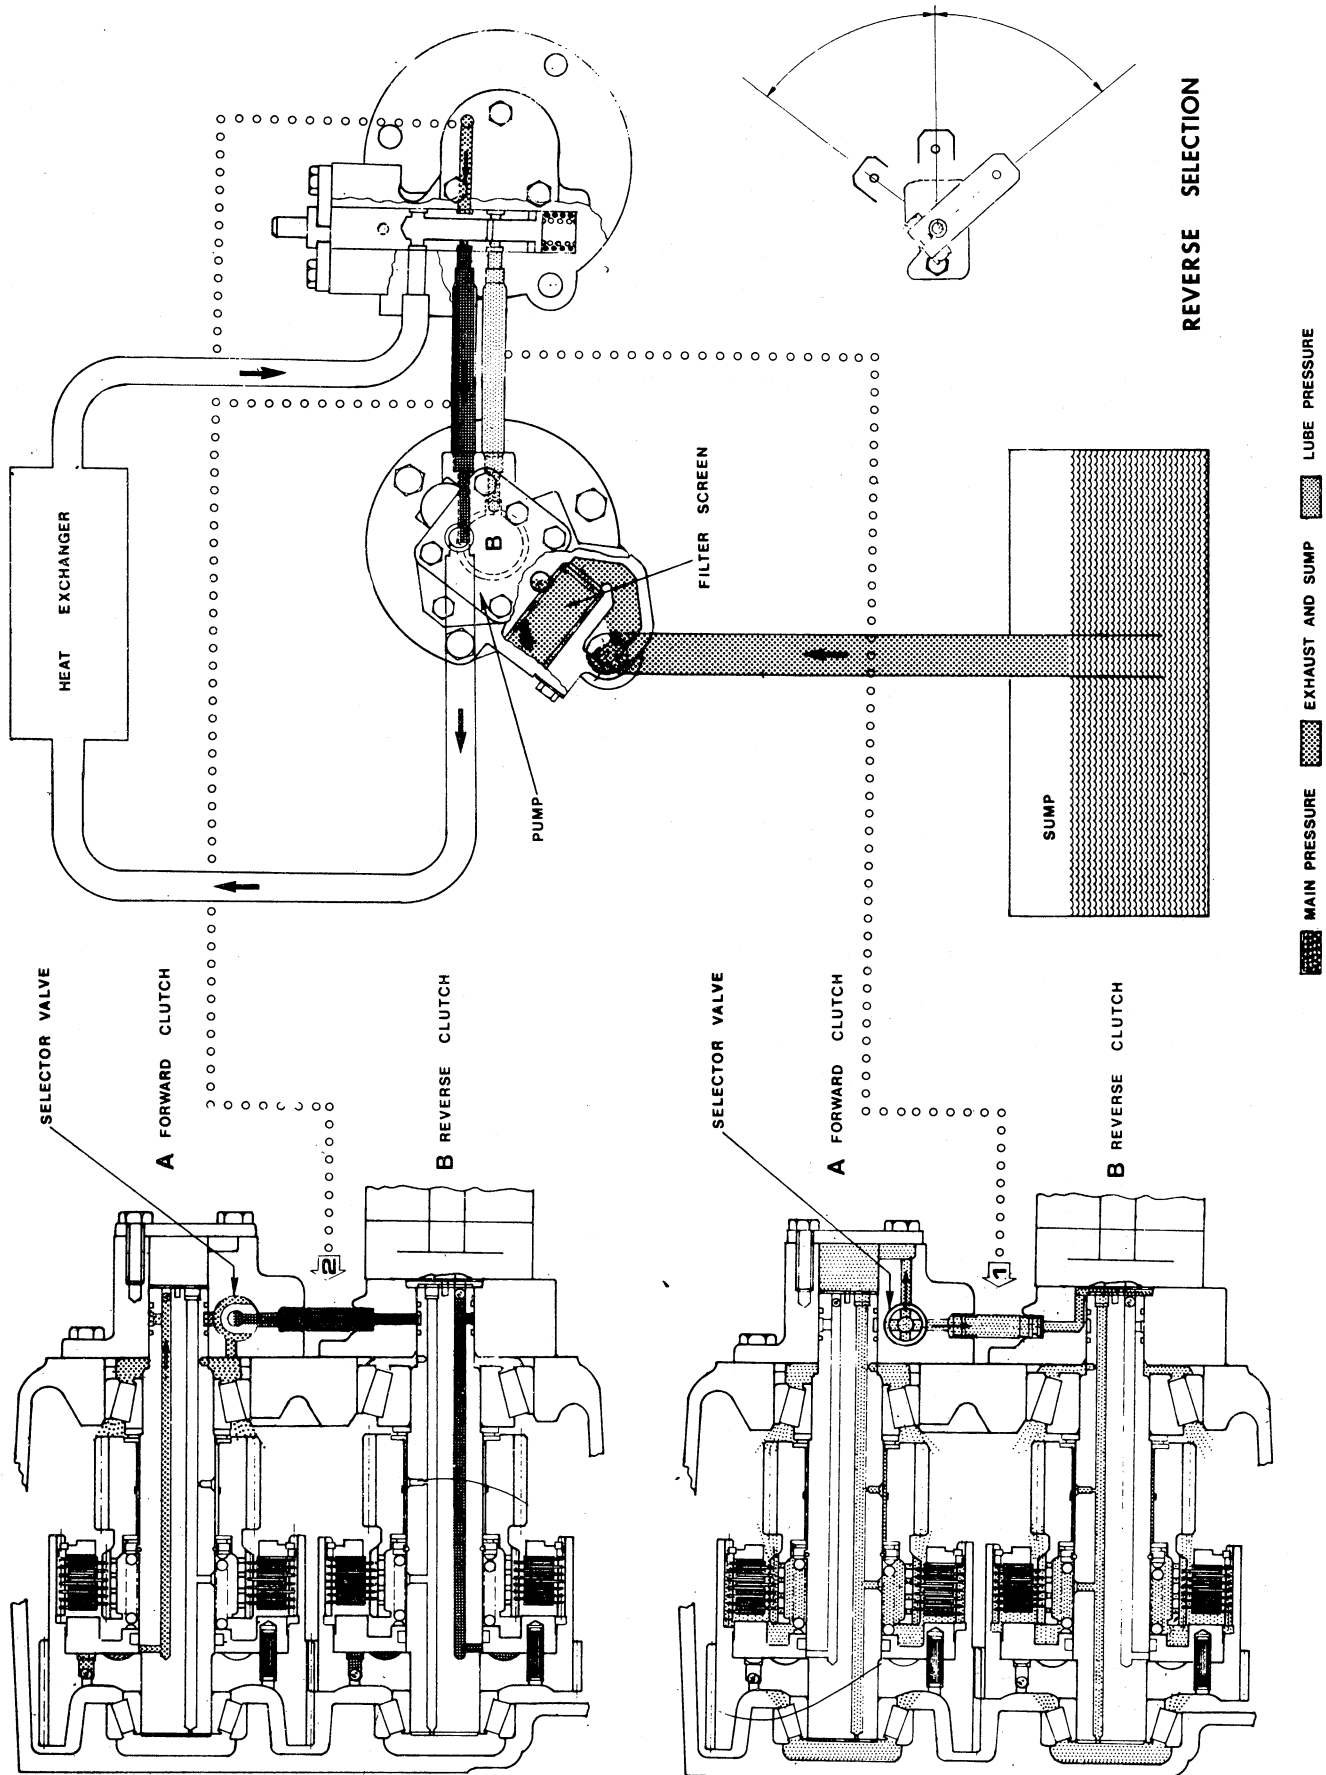

Fig. 9 . Marine Transmission oil flow - Reverse clutch applied - Schematic drawing.
C. Reverse clutch applied (fig. 9). Oil is pressurized by the main regulator valve in the regulator valve body to approximately 250 psi or 310 psi depending on springs used. Oil is routed by the selector valve in the valve body to the annular groove and cross drilled hole in the reverse clutch shaft. An annular chamber formed in the rear of the clutch shaft is sealed on both sides by piston rings. The cross-drilled hole in the clutch shaft intersects a horizontally-drilled hole in the shaft that is terminated by a ball plug installed in the end of the shaft. A second cross-drilled hole that also intersects the horizontally-drilled hole permits the oil pressure to enter the chamber between the reverse clutch housing gear and the clutch piston. The oil pressure moves the clutch piston against the clutch plates, and the reverse clutch is engaged. Any oil that exists in the forward clutch is returned to sump by the position of the selector valve the force exerted by the clutch piston spring and a ball dump valve. Overage oil in the regulator valve body chamber passes by the regulator valve and enters the lube oil connecting tube for cooling and lubricating functions as described in Neutral.